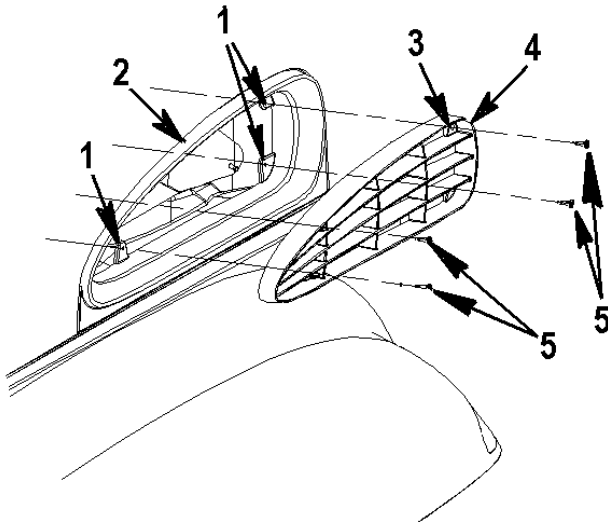

Figure 37 Air Intake Openings
1. Locate and remove the four grille assembly mounting screws (Figure 37, Item 5) from the grille assembly mounting tabs (Figure 37, Item 3).